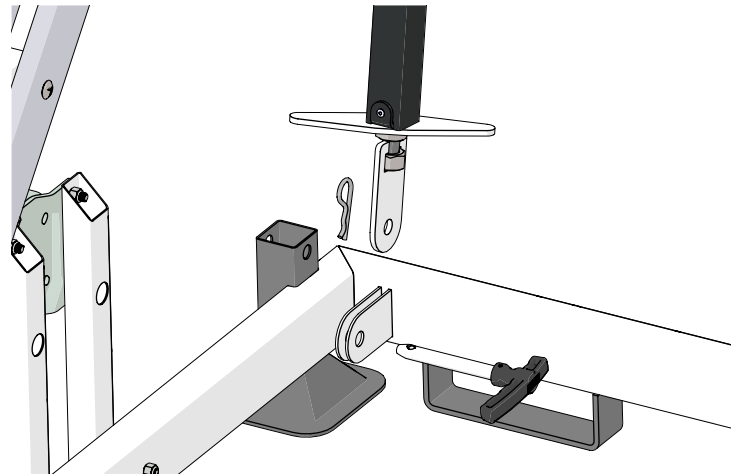

Fig. 15-1
- Slide the combined stabilizer post up or down aligning the bottom stabilizer post mounting bracket with the mounting bracket located on the transport pallet. See Fig 15-1,
- Slide the lower brace support tube up or down aligning the mounting tab/hole with the mounting tabs on the Super Steps frame. As shown in Fig. 15-1.